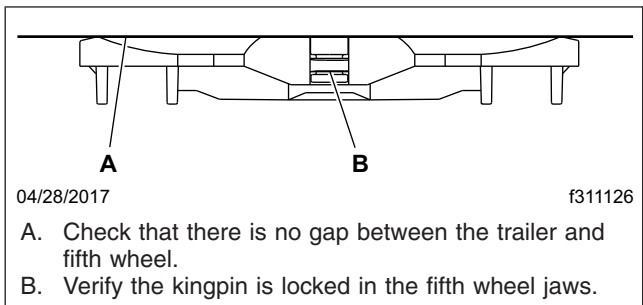

Fig. 17.7, Coupling Inspection View
- 10.1 Verify there is no gap between the bottom of the trailer and the fifth wheel as shown in Fig. 17.7.
- 10.2 Make sure the jaw and wedge of the fifth wheel are locked in place behind the kingpin as shown in Fig. 17.7.